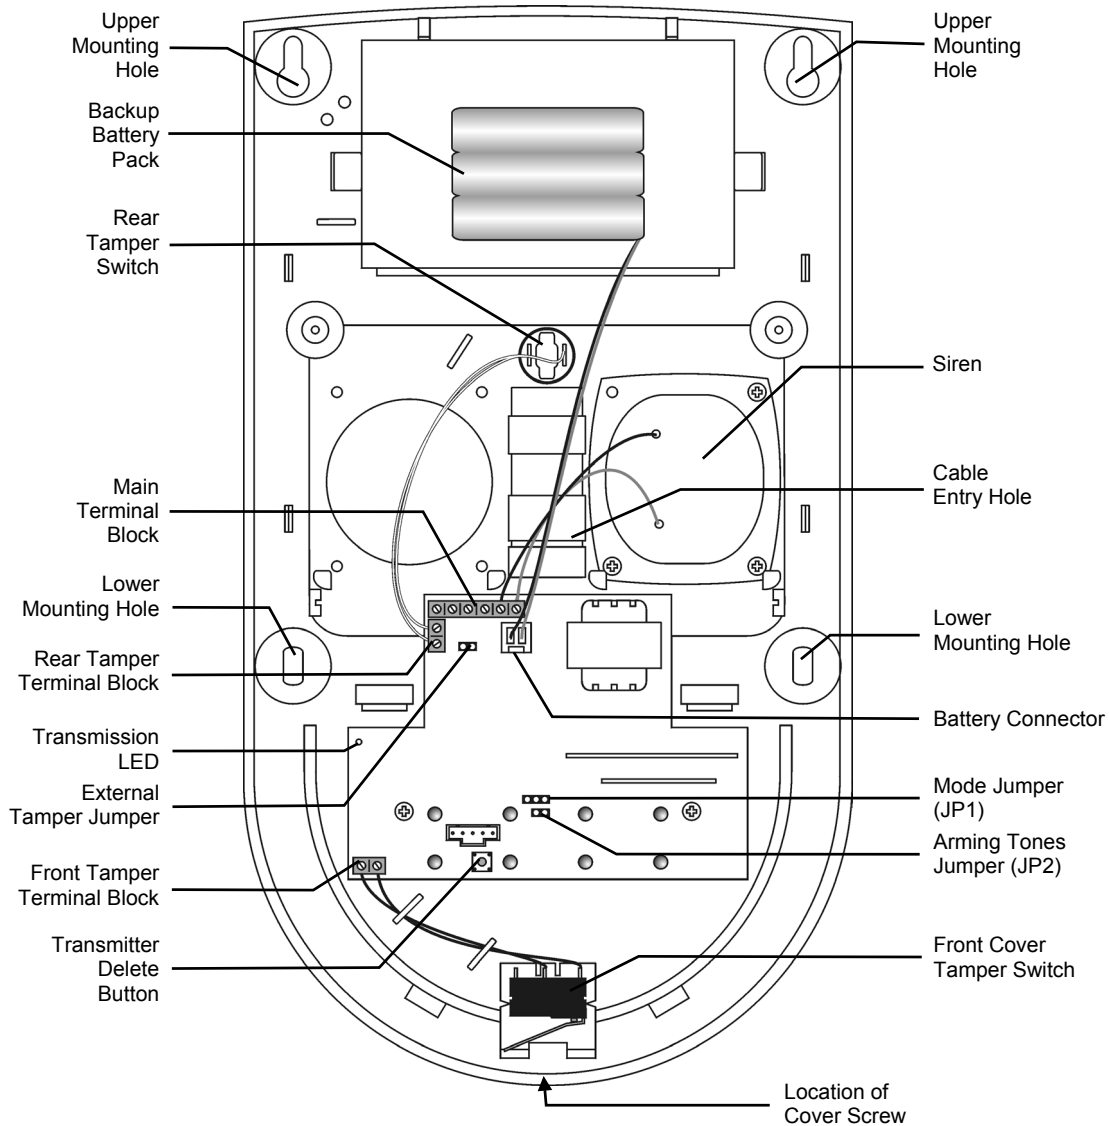
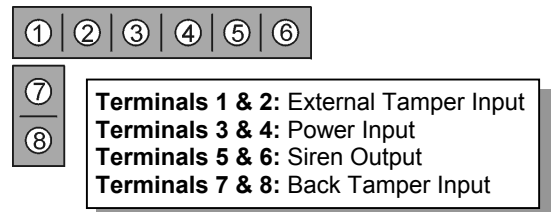

Figure 1: INF-WES (cover off)
Figure 2: Wiring Connections
4. Connect a 12VDC or 9VAC, 500mA transformer to terminals 3 and 4 on the siren's terminal block (polarity is not important) – see Figure 2.
18. Connect the transformer to the terminal block and the backup battery to the battery connector. If using Electronics Line 3000’s tamper protected external power supply, connect its tamper output to the siren’s external tamper input, remove the External Tamper jumper and place it over one pin for storage – see *Figure 2 for further information on wiring connections and Figure 1 for the location of the External Tamper jumper.*